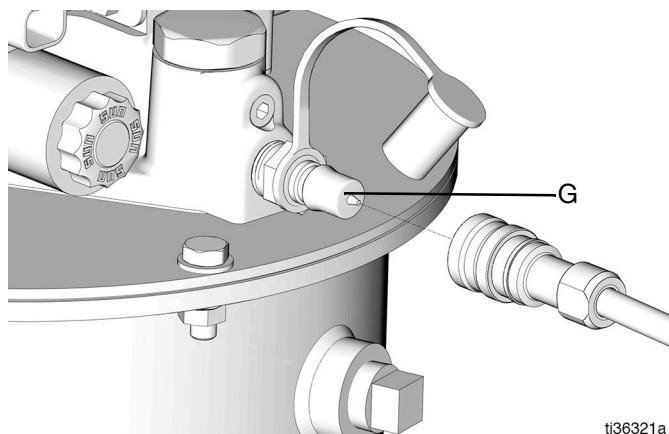

FIG. 18
1. Connect the lubricant supply hose (JJ) from the remote filling station pump (AA) to the fill port (G) (FIG. 18).